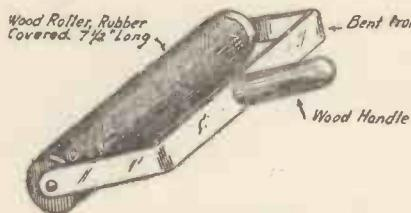

Fig. 6.—Roller for Inking the Type.
**Printing.**—At last we come to the printing. Assuming that you have set everything right, prepare your inking-plate. A small tin of ink will go a long way, and can be obtained either from a manufacturer or from your local printer. The ink should be dabbed on the plate evenly all over and then rolled in with a roller. Rollers such as photographers use will serve, if of suitable size, or, alternatively, you can easily make one. This item is shown in Fig. 6. The ink must be applied to the plate thinly and rolled perfectly even, otherwise you will get too much ink on your print in one place, and not enough in another. Now, close the press, run your roller over the plate, open the press, set your paper, run the roller evenly over the type with a swift movement, once forward and once back, close the press again, apply hand pressure, and open the press, and you have your impression. Before opening the second time, ink the roller ready for the next print.